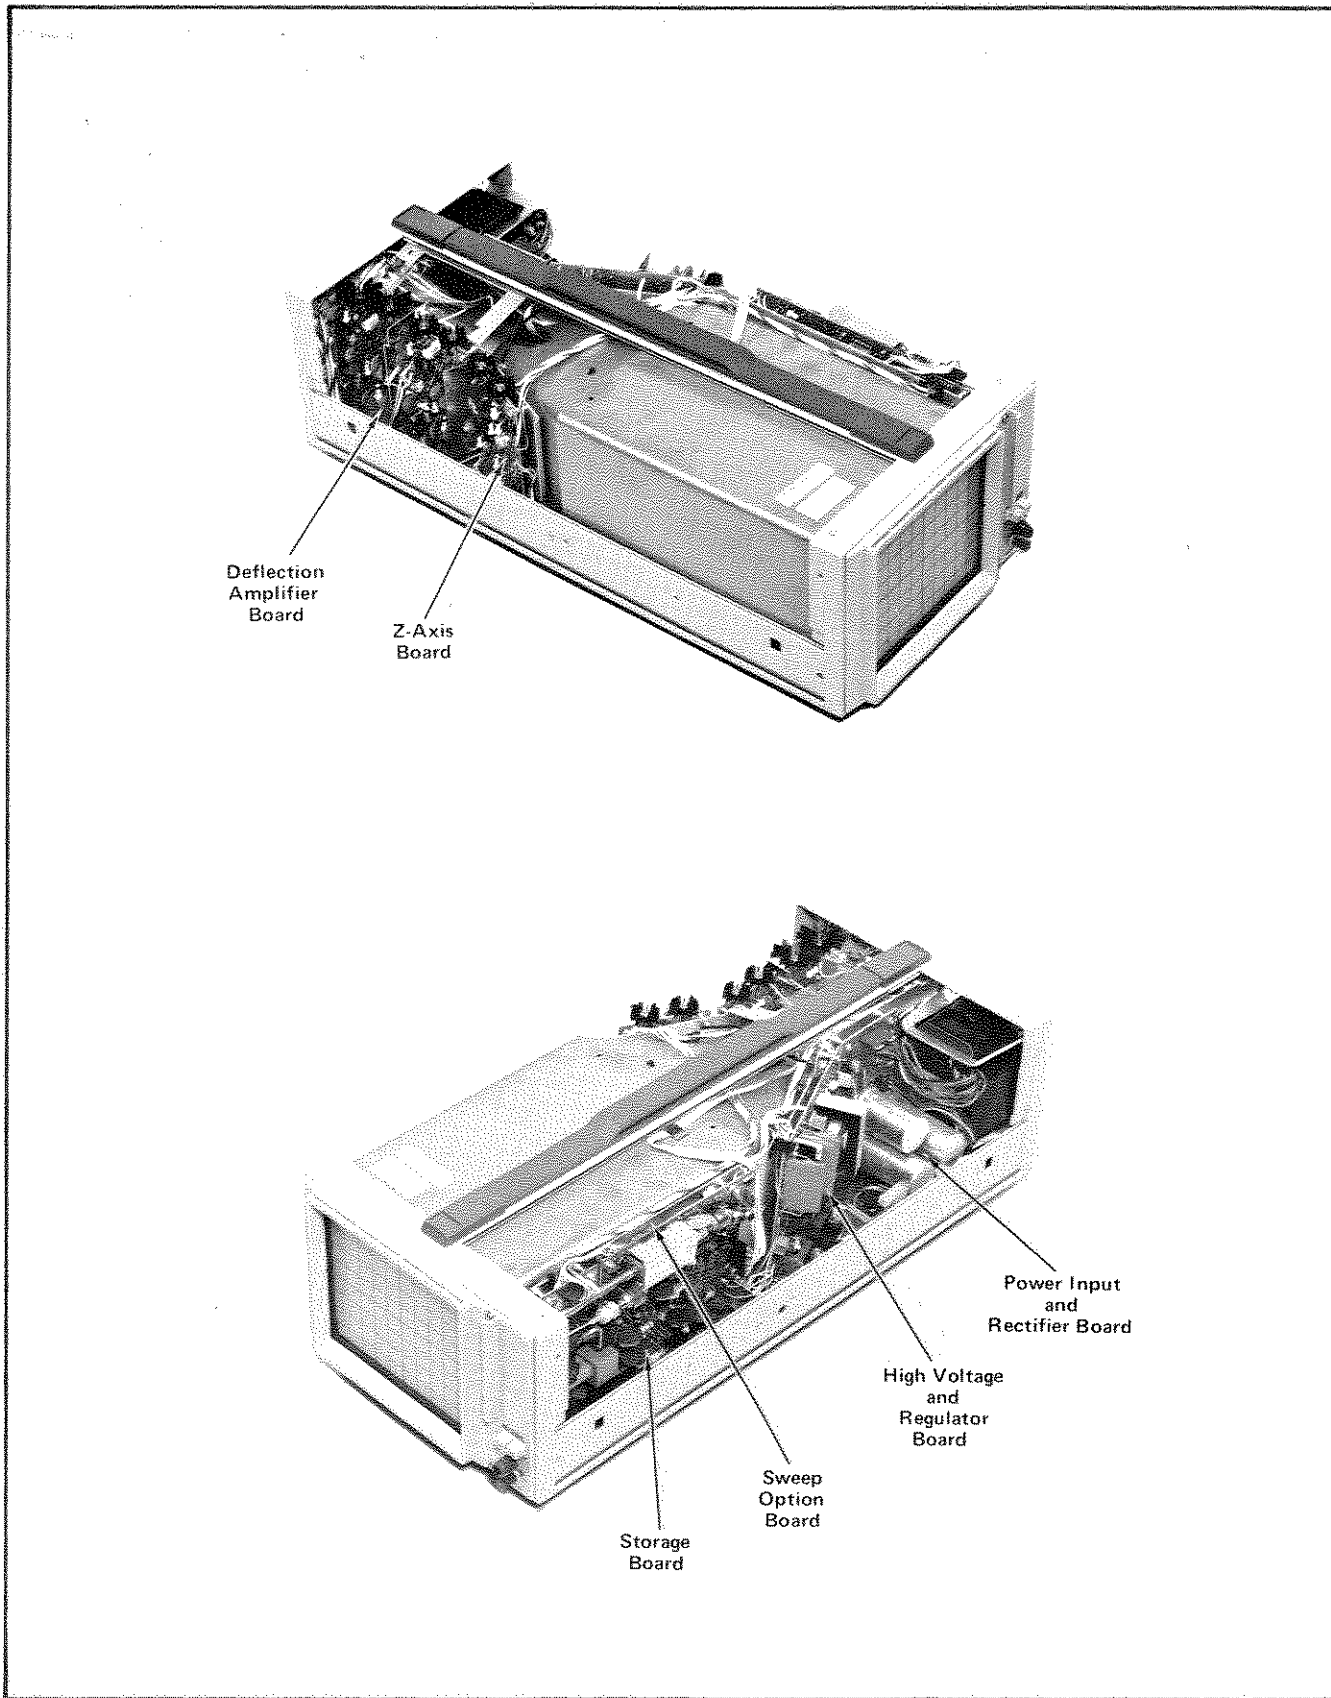

Fig. 3-1. Right and Left side views showing board locations.
**Semiconductor Lead Configuration.** Fig. 3-1 shows the lead configuration of the semiconductor devices used in this instrument.
Replacement semiconductors should be of the original type or a direct replacement. Fig. 3-1 shows the lead configuration of the semiconductors used in this instrument. When removing soldered-in transistors, use suction-type de-soldering tool to remove the solder from the holes in the circuit board.